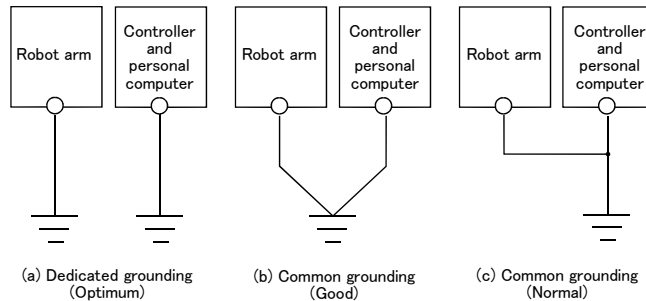

Fig.2-4 : Grounding methods
- 1) There are three grounding methods as shown in Fig. 2-4, but the dedicated grounding (Fig. 2-4 (a)) should be used for the robot arm and controller when possible. (Refer to the separate "Controller Setup, Basic Operation and Maintenance" for details on the controller grounding.)